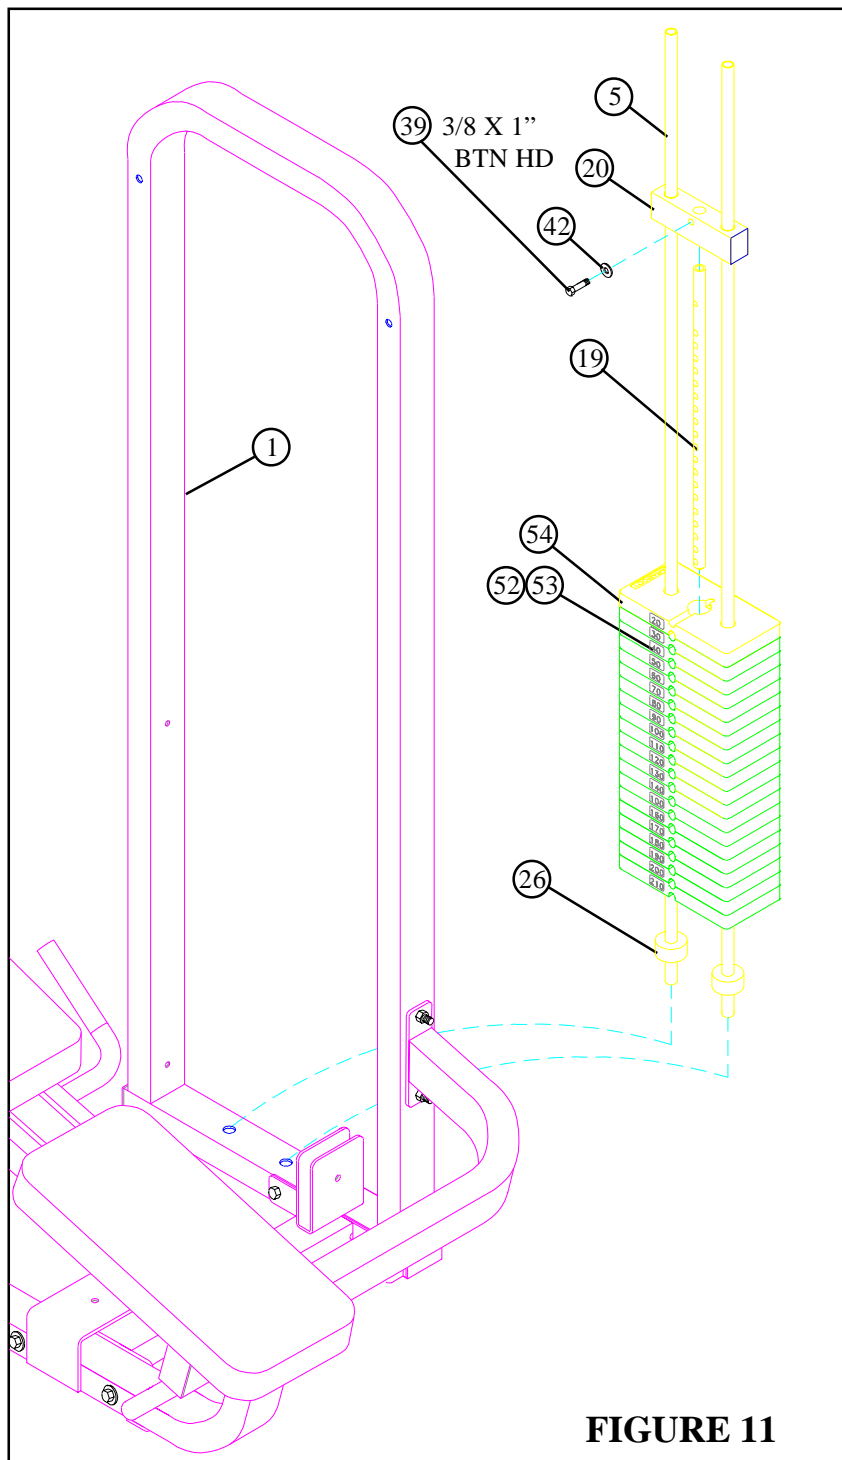

FIGURE 11
- Insert the two GUIDE RODS (5) into the base of the TOWER (1) as shown in FIGURE 11. Lubricate the GUIDE RODS with a silicon or teflon spray that is available at most hardware stores.
- Slide two WEIGHT STACK CUSHIONS (26) down over the GUIDE RODS (5). See FIGURE 11.
- Using **EXTREME CARE** slide twenty WEIGHT PLATES (54) down over the GUIDE RODS (5) with the “PARABODY” side up and the key-hole facing as shown in FIGURE 11.
- **SECURELY** assemble the WEIGHT STACK SHAFT (19) to the HEAD PLATE (20) using one 3/8 X 1” BUTTON HEAD CAP SCREW (39) and one 3/8” LOCK WASHER (42). (**Note: The bolt hole in the HEAD PLATE (39) should be on top.**)
- Carefully Slide the HEAD PLATE ASSEMBLY down over the GUIDE RODS (5) onto the weight stack as shown in FIGURE 11.
- Apply one set of WEIGHT STACK LABELS - LBS. OR KGS. (52) (53) to each WEIGHT PLATE (54) as shown in FIGURE 11.